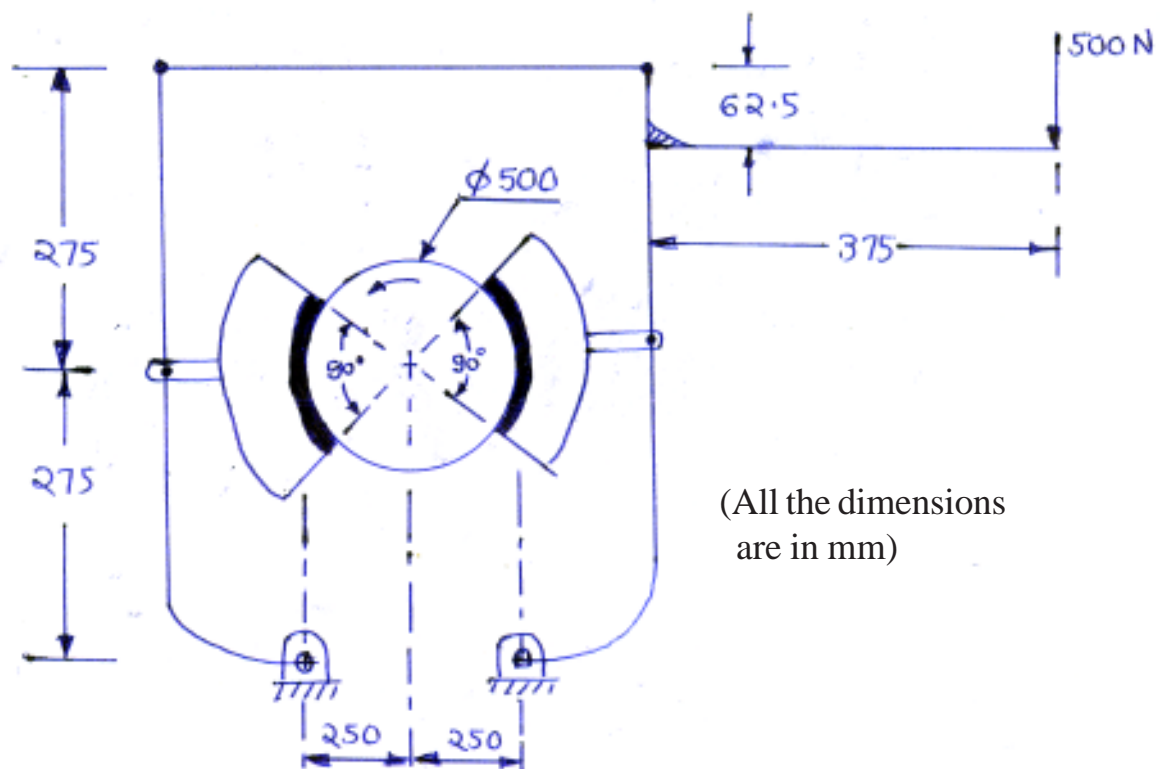

Figure 1 [Q. 4 (b)]
- b) A pivoted double block brake as shown in fig. 1 has a face width of 50 mm and coefficient of friction as 0.25. The pivot of each shoe is located such that the moment of frictions force on shoe about the pivot is zero. If the brake drum rotates at 600 rpm. Calculate :